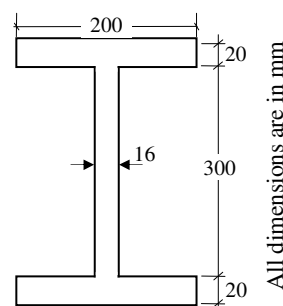

Figure 3
4. The cross-section of a beam shown in Fig. 3 is subjected to a shear force 200 kN. Draw the shear stress distribution in the web, indicating salient values. [4]